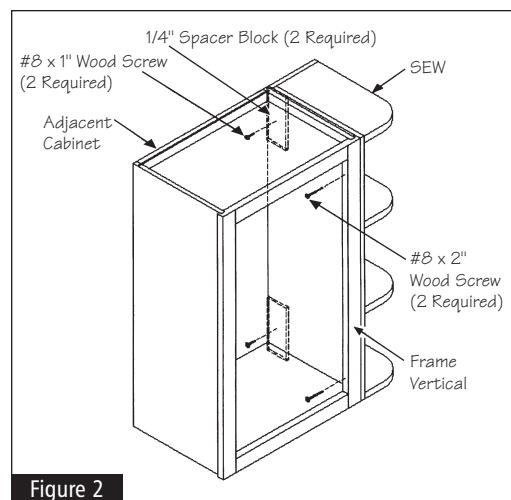

Figure 2
- 2** Using a 3/32" diameter drill bit, drill and countersink a pilot hole through each spacer block and side panel. Locate the pilot holes approximately in the center of the spacer blocks. See Figure 2.
- 3** Using a 5/32" diameter drill bit, drill and countersink two pilot holes through the frame vertical of the adjacent cabinet. Holes should be centered on the inside edge of the frame vertical from front to back and should be two to three inches from the top or bottom of the vertical. See Figure 2.
- 4** Position the SEW unit into the desired location. Wood clamps are recommended to help hold the unit in place until it is secure. Attach the two #8 x 1" wood screws through the pilot holes drilled through the spacers in Step 2. Then attach the two #8 x 2" wood screws through the pilot holes drilled into the frame vertical in Step 3. See Figure 2.